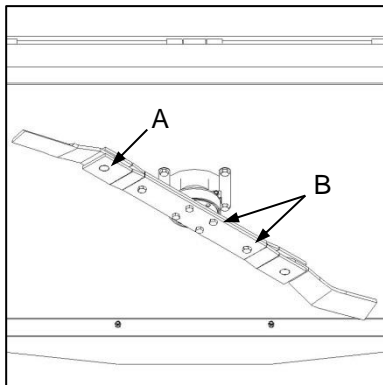
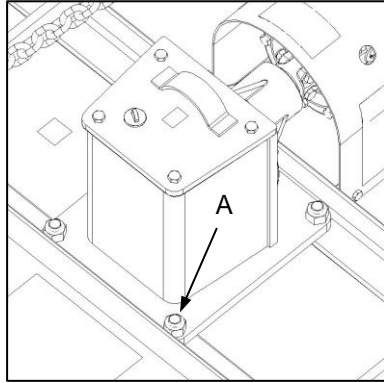
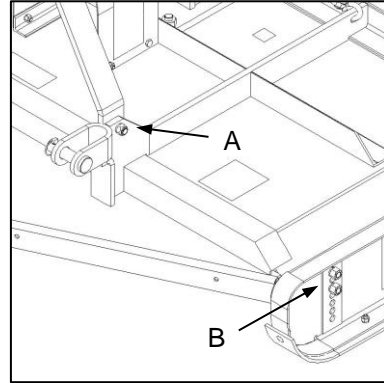

Fig. 1
Fig. 3
Fig. 4
- ✔ Check all fasteners for tightness. This includes special attention to safety-critical fasteners such as blade bolts and nuts (Fig. 1-A / 2-A), cutting gear mounting bolts (Fig. 1-B / 2-B), gearbox mounting bolts (Fig. 3-A), topmast mounting and pivot bolts (Fig. 4-A) and side panel retaining bolts (Fig. 4-B).
- ✔ Verseker dat alle hegstukke vas is. Dit sluit in spesiale aandag aan veiligheidskritieke hegstukke soos lemboute en -moere (Fig. 1-A / 2-A), snymeganisme monteerboute (Fig. 1-B / 2-B), ratkas monteerboute (Fig. 3-A), topmasmonteer- en -spilboute (Fig. 4-A) en sypaneel monteerboute (Fig. 4-B).